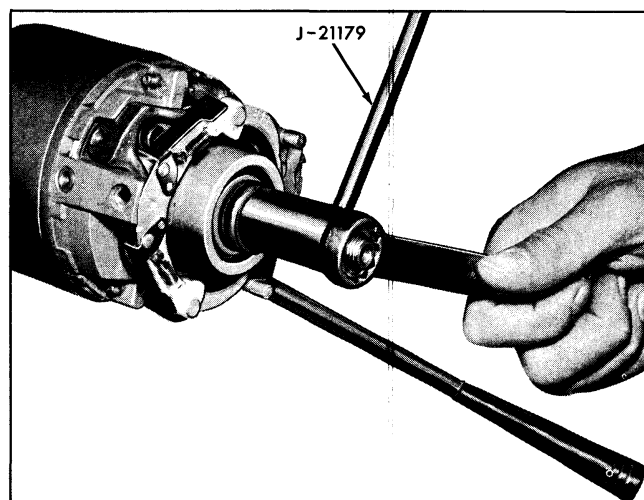

Fig. 9-29 Seating Spacer
25. Install the steering wheel nut and turn down until window (cut out) in tool J-21179 is in line with upper edge of snap ring groove (.002") (Fig. 9-29).